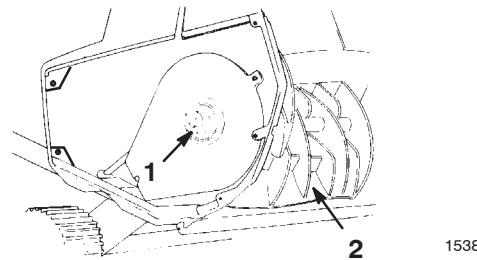

Figure 14
- Using a 5/16-inch Allen wrench, turn the rotor shaft clockwise (left-hand thread) while holding the rotor (Fig. 14).